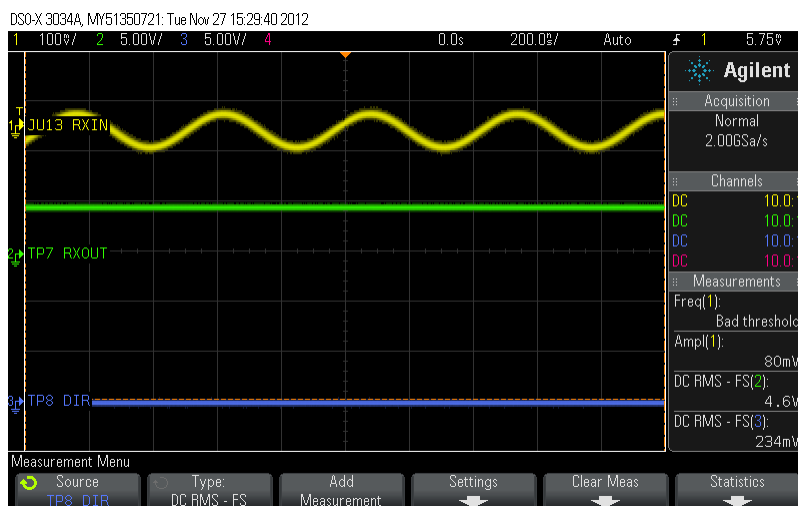

Figure 8. Rx Channel Evaluation: 80mVpp input at RXIN
12. Example waveforms with an 80mVpp sine wave input at J1 are shown in Figure 8. RXOUT is high and DIR is low indicating the device is not in Receive mode.